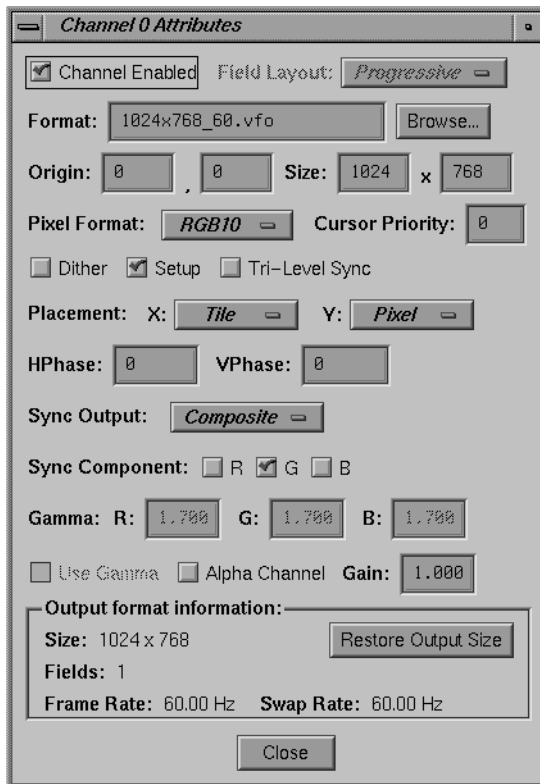

Figure A-4 Channel Attributes Window
4. Bring up the Attributes window by double-clicking the *Ch1* button in the Combiner main window. The Channel 1 Attributes window appears, as shown in Figure A-4.
7. Move to the right Origin box (the y-origin box) and replace the value with **10**; press **Enter**. See Figure A-4 for an example.